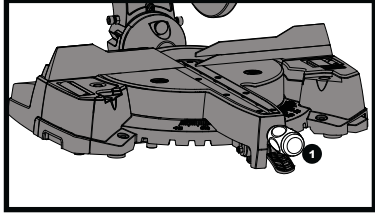

Fig 3
1) Thread the mitre handle (1) into the hole located at the front of the mitre table. (See fig. 3)